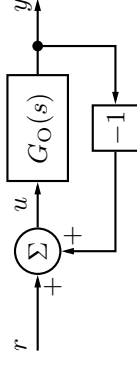

Figure 3.27a
3.27 Determine the transfer function for the loop gain and the closed loop system for the control system given by the block diagram in Figure 3.27a.